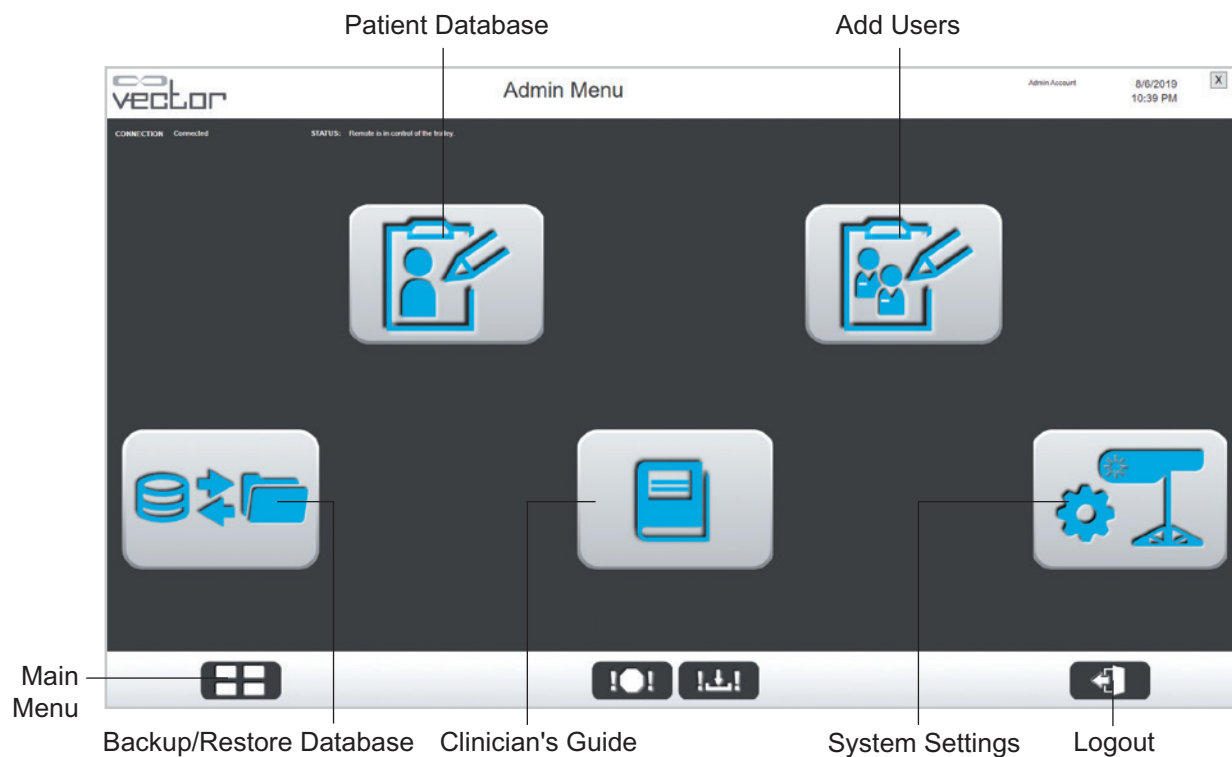

Figure 11-2: Admin Menu Screen
2. The Admin Menu screen will open. See Figure 11-2.
The Vector Elite Admin Menu screen has five menu options that appear as buttons with descriptive icons. See Figure 11-2.
1. From the Admin Menu screen, press on the Patient Database button. See Figure 11-2.
1. From the Admin Menu screen, press the Add Users button. See Figure 11-2.
1. From the Admin Menu screen, press the Backup/Restore Database button. See Figure 11-2.